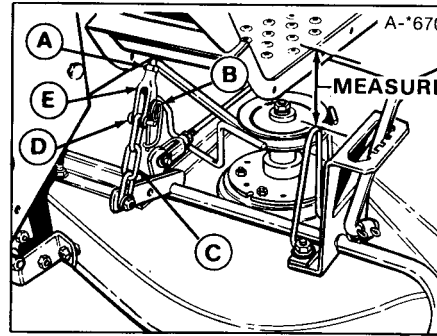

Figure 38. Lift Assembly - Small Lift Lever
2. Measure the distance between top of upstop bracket and bottom of footrest (figure 38). The measurement should be 2-13/16 .
3. To adjust, disconnect clevis (E) from chain. Loosen nut (A) and turn clevis to raise or lower mower. Re-connect chain to check measurement. When correct, tighten nut against clevis.